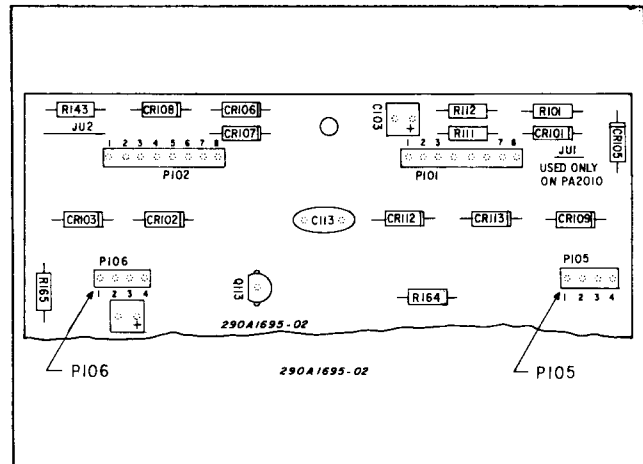

Figure 3-6 Location of P105 and P106
3. Install the optional Auxiliary Sound Board on P105 and P106, as shown in figure 3-6. Make sure the component side of the optional Auxiliary Board is toward the rear of the Main Circuit Board.